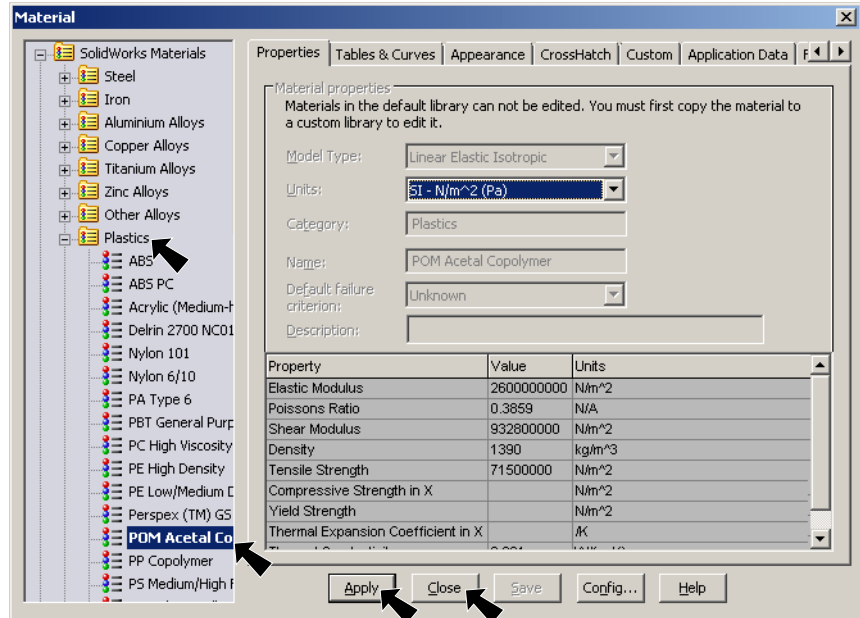

Fig. 23
Step 2. Expand Plastics in the material tree and select POM Acetal Copolymer, Fig. 23. Click Apply and Close.